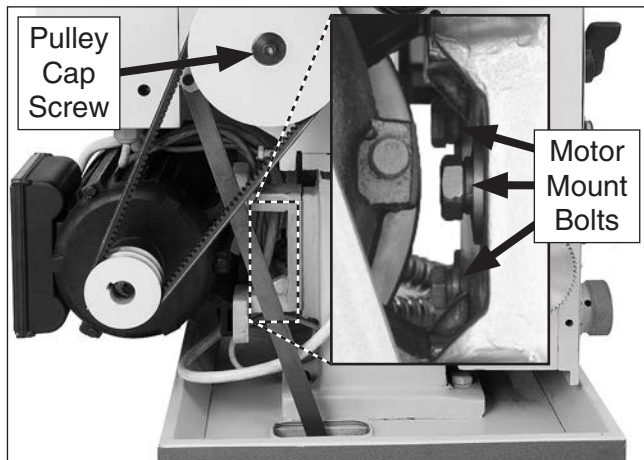

Figure 140. Location of pulley cap screw and motor mount bolts.
3. Loosen motor mount bolts (see **Figure 140**), slide motor up, and remove belts.
4. Have another person step on brake pedal to lock pulley in place, and remove pulley cap screw shown in **Figure 140**.